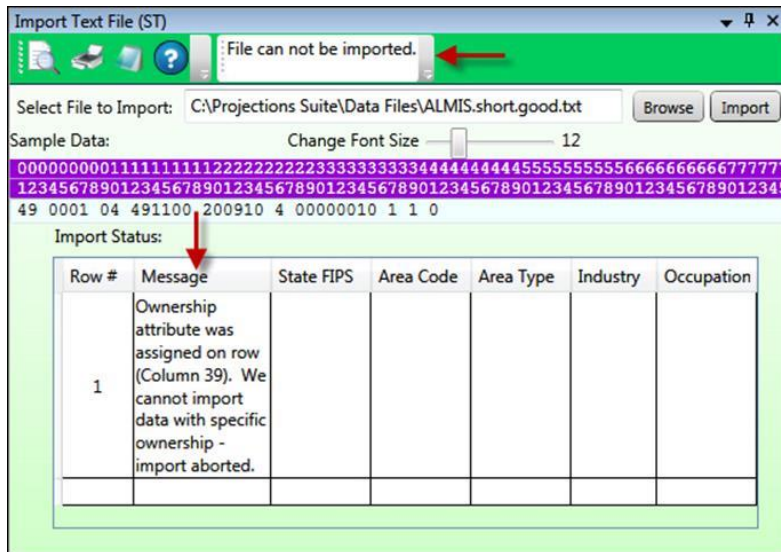

Figure 3: Data validation messages
- If you are satisfied with the file layout, click **Import**. There are two places import information displays (see Figure 3):